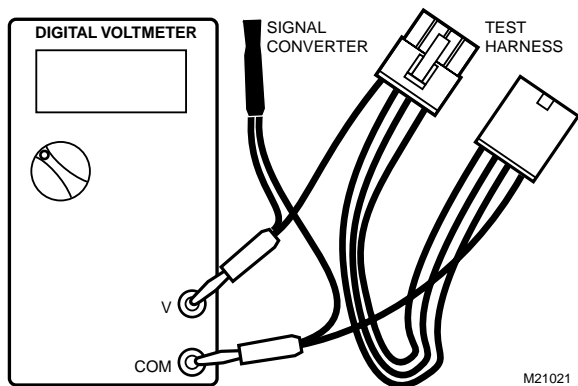

Fig. 3. Test harness connected to adapter and digital voltmeter.
NOTE: Millivolt measurement requires a digital voltmeter capable of reading dc millivolts. Use the signal converter included with this kit. See Fig. 3.
- a. Insert the valve side of the test harness through the female end of the signal converter connector and into the positive (+) jack of the digital voltmeter, as shown in Fig. 3.
- b. Insert the HSI element/flame rod side of the test harness through the female end of the signal converter connector and into the negative (-) jack of the digital voltmeter, as also shown in Fig. 3.